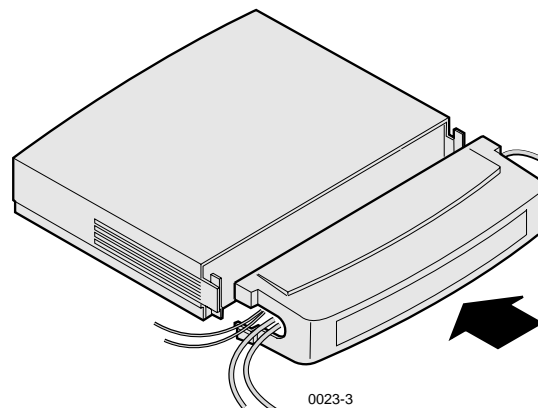

Figure 6. Installing the NC200 Cable Cover
11. **NC200:** Replace the cable cover, routing the cables out the slots in the cover sides as shown in Figure 6.